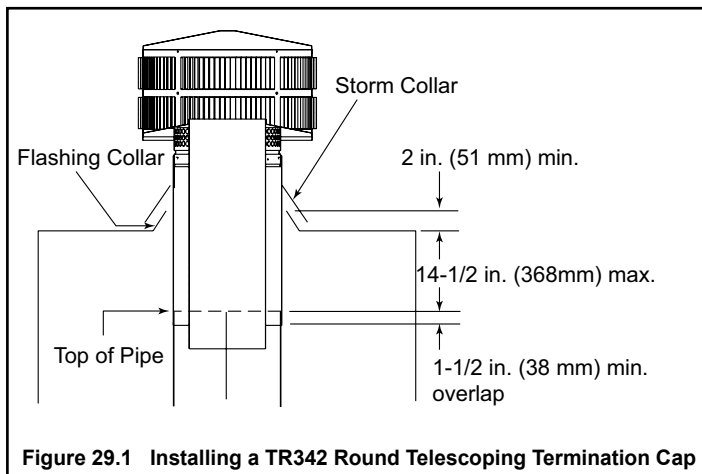

Figure 29.1 Installing a TR342 Round Telescoping Termination Cap
- For installations utilizing a round telescoping termination cap, the uppermost chimney section must be below the top of the chase top, but not more than 14-1/2 in. (368 mm) below the top of the chase top. Minimum overlap of chimney and termination cap must be 1-1/2 in. (38 mm). See Figure 29.1 on page 29.